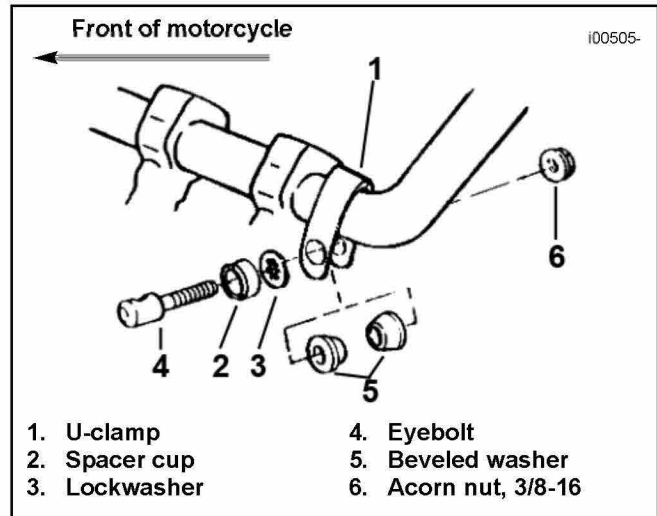

Figure 1. U-clamp Installation
1. See Figure 1. Place U-clamp (1) around horizontal portion of handlebar with open end of clamp facing downward. Using a pliers, lightly squeeze ends of U-clamp together.
2. See Figures 1 and 2. Place spacer cup and internal lockwasher on eyebolt. Start slipping eyebolt through U-clamp from outside of handlebar. Continue inserting eyebolt through two beveled washers (placed between U-clamp prongs, bevels facing each other) and out through other side of handlebar clamp.